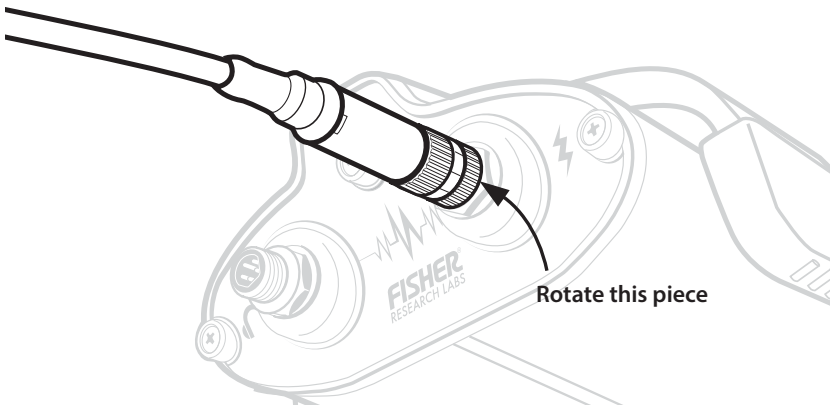

Figure 10
7. Turn outer knurled ring clockwise to thread on the connector (figure 10).